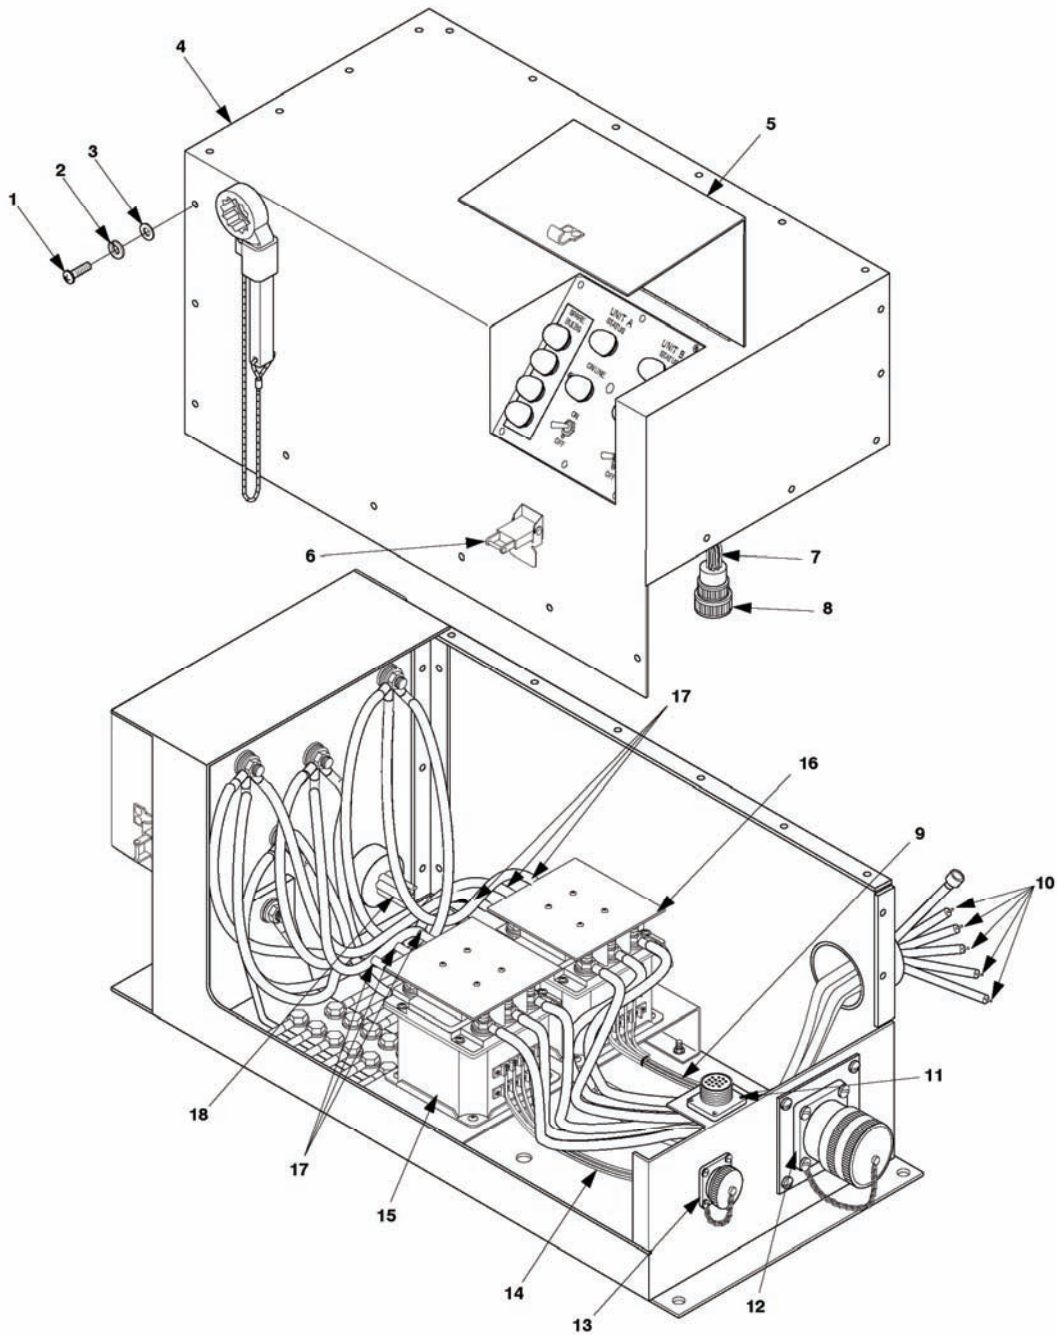

Figure 5-11.1. Switch Box Assembly Test (A Model).
- a. Remove 21 screws (1, figure 5-11.1), flat washers (3), and lock washers (2) that secure the switch box cover (4) to the switch box assembly. Discard lock washers (2).
- a. Using a multimeter, test contactor K1 (15, Figure 5-11.1) as follows: